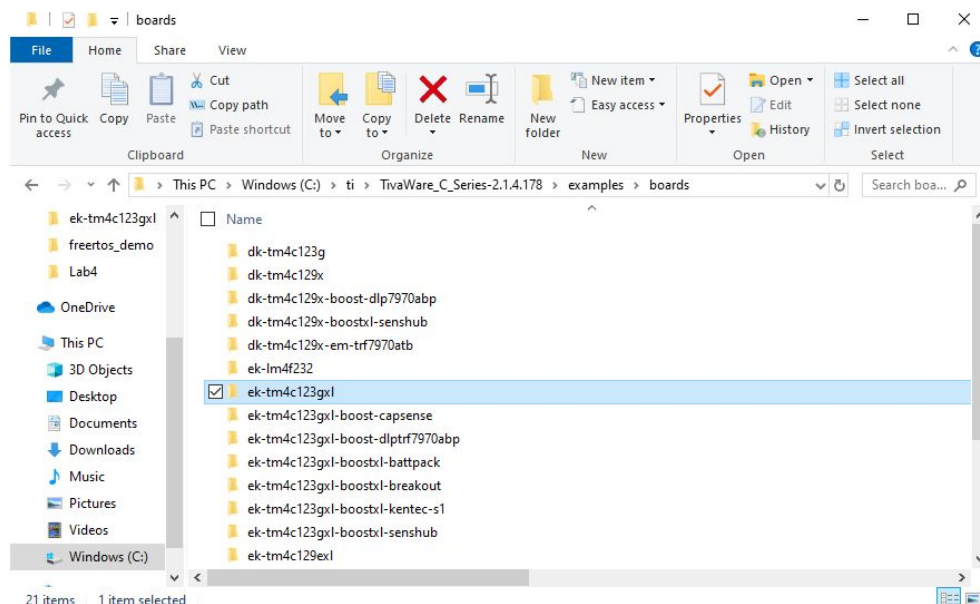

Figure 4: The ek-tm4c123gxl directory
2. Go to the installation directory, then go to examples -> boards -> ek-tm4c123gxl. (The name of the folder suggests a different board, but that is okay.) Here you'll find a folder called freertos\_demo. This is the folder you'll be working with in this Lab. Figure 4 below shows this directory.